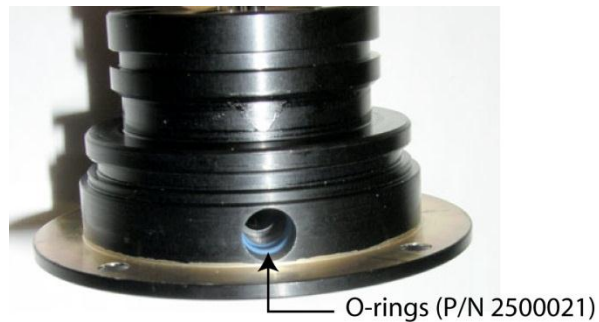

Figure 8-8
11. To install a wick back into the CPC, confirm that four O-rings on the saturator base are in place and undamaged. Replacement O-rings are provided in the accessory kit if an O-ring on the saturator base becomes lost or damaged. Figure 8-7 shows the two outer O-rings (P/N 2501172, 2501569) and Figure 8-8 shows the two inner O-rings (P/N 2500021).